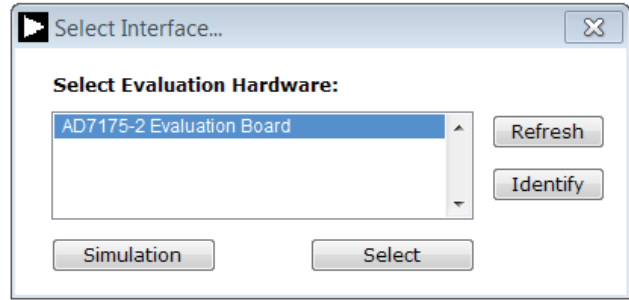
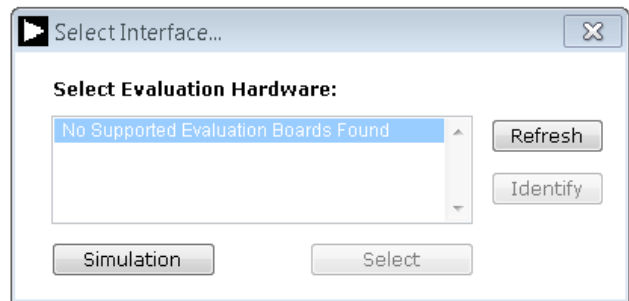
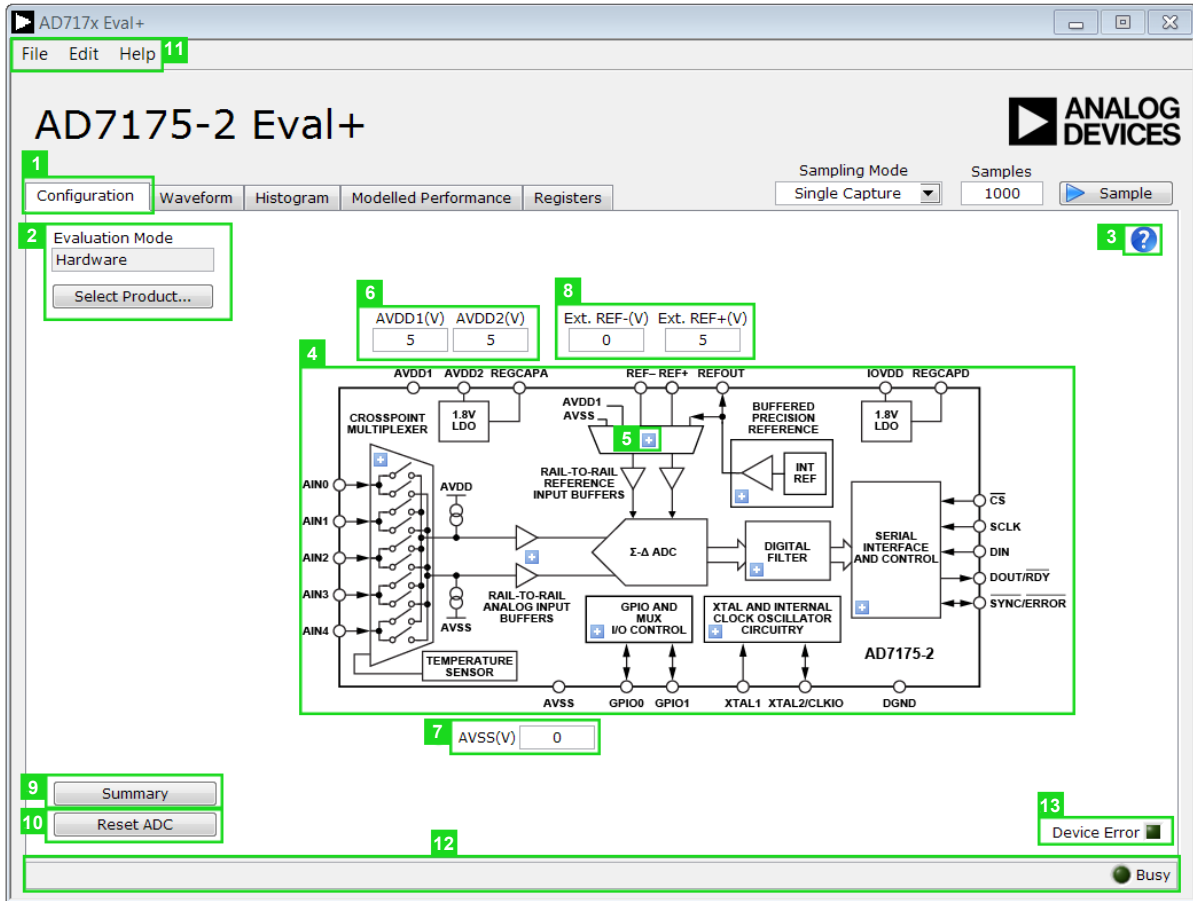
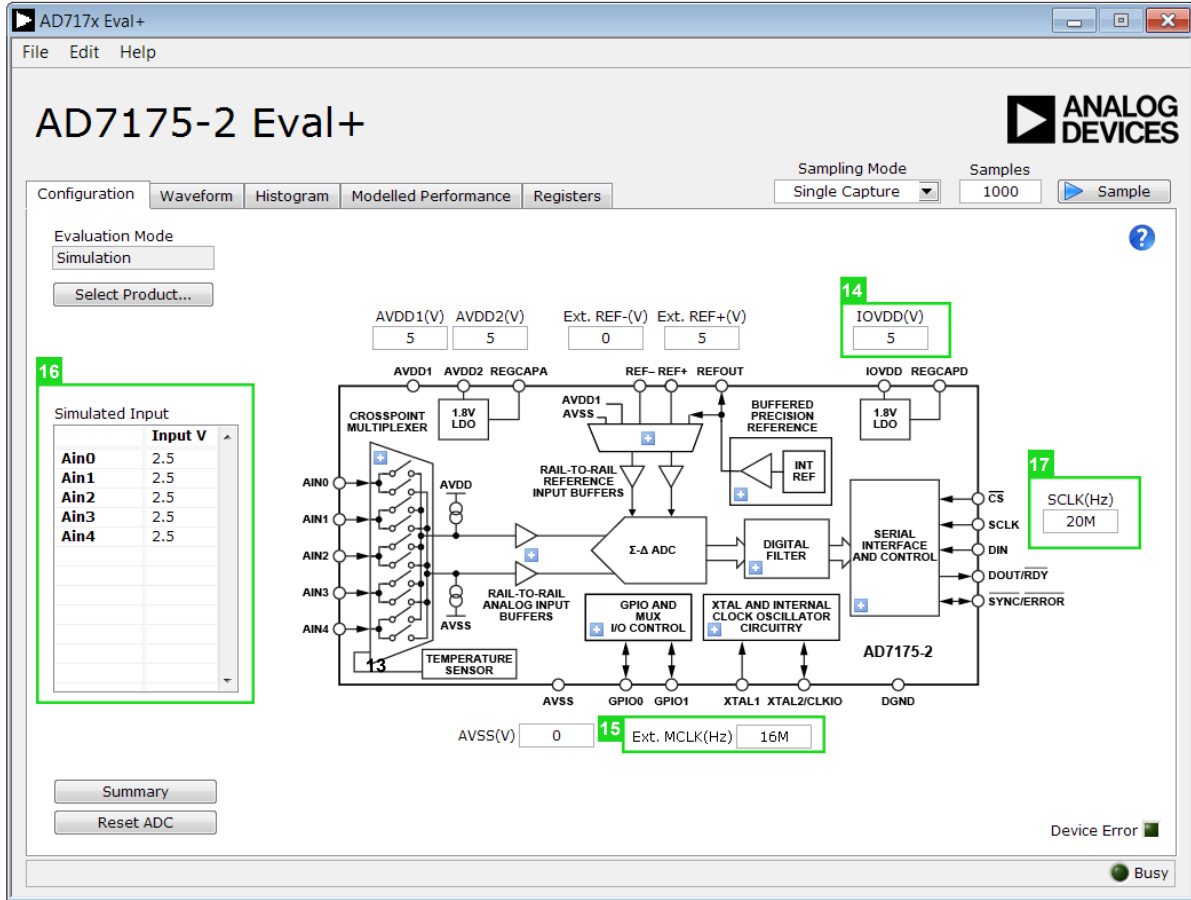

Figure 13. AD7175-2 Evaluation Board Selection
Figure 14. Evaluation Board Selection, No Board Connected
Figure 16. Configuration Tab of the AD7175-2 Eval+ Software in Hardware Mode
Figure 17. Configuration Tab of the AD7175-2 Eval+ Software in Simulation Mode
- The dialog box in Figure 13 appears, select **AD7175 Evaluation Board**. The main window of the software box displays as shown in Figure 16.
- If the **EVAL-AD7175-2SDZ** evaluation system is not connected to the USB port via the **SDP-B**, when the software is launched the **Select Interface** dialog box appears (see Figure 14). Connect the evaluation board to the USB port of the PC, wait a few seconds, click **Refresh** and the option shown in Figure 13 appears.
Figure 16 shows the Configuration tab when Hardware Mode is selected and Figure 17 shows the Configuration tab when Simulation mode is selected. The controls highlighted in Figure 17 are only available in Simulation mode.
The Evaluation Mode indicator displays the current evaluation mode. To switch between modes, click the Select Product button and the dialog box shown in Figure 13 appears.